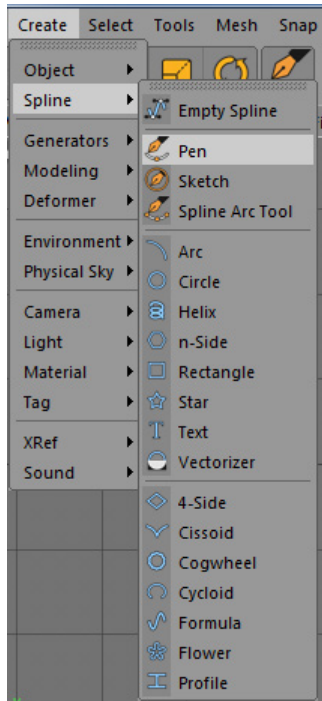
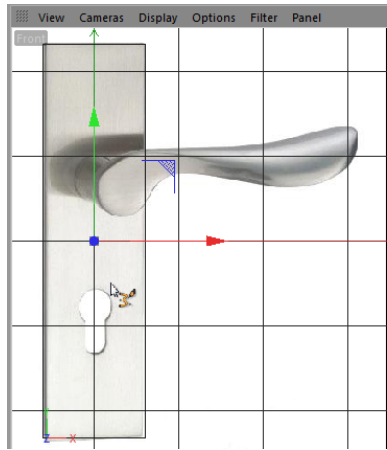

Figure 2-10 Choosing **Pen** from the main menu
Figure 2-11 *The changed shape of the cursor*
1. Press F4; the Front viewport is maximized. Choose **Create > Spline** from the main menu; a cascading menu is displayed. Now, choose **Pen** from it, as shown in Figure 2-10. Alternatively, choose the **Pen** tool in the Command Palette; the shape of the cursor changes, as shown in Figure 2-11.